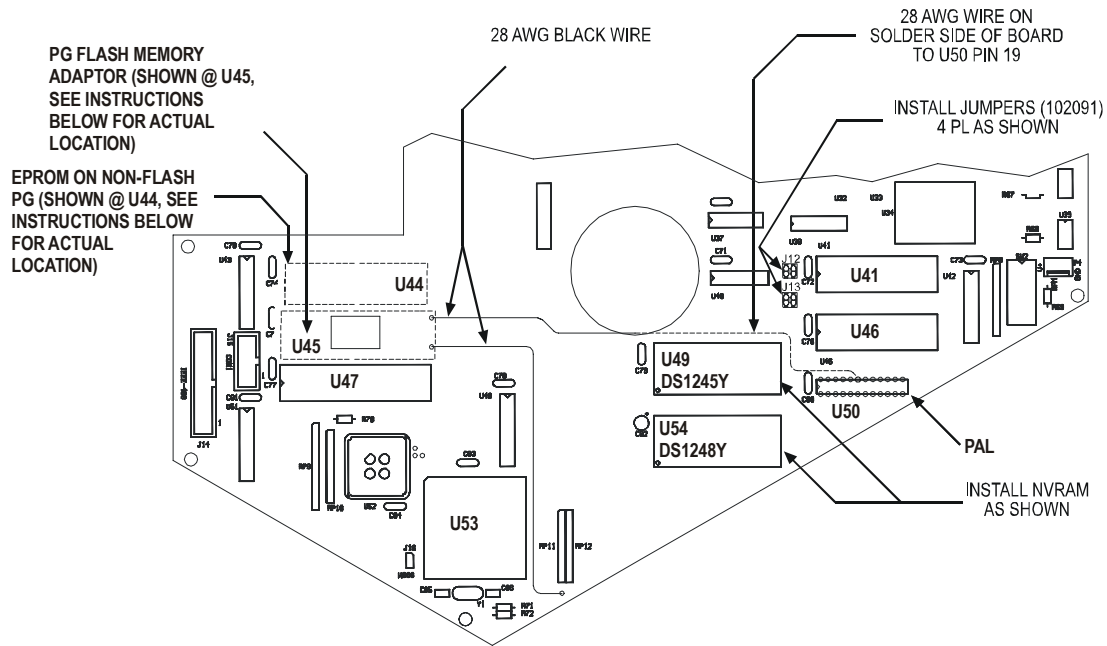

Figure 2
Installation Instructions (see Figure 2)
- 10 Using two lengths of the black 28 AWG wire and referring to Figure 2, connect the PG flash adaptor to the PG main board. Use silicon glue to hold the wire on the board.
- ① Flash the PG7000 with PG7000 software ver. 2.02d. (This is available for download at DHI web site: www.dhstruments.com). Refer to the instructions provided in Section 5.5 of the PG7000 manual. Remember, a “null modem” cable must be used to connect the PC to the PG7000 COM2 port.
- ② Reboot the PG7000 following the reboot instructions displayed. When asked whether to upgrade answer, “YES”.
- ③ Repeat step ① and ② with the most recent PG7000 software version.
- ④ PG7000 software upgrades are designed to reformat and transfer data as needed. However, various PG7000 user settings may be reset and/or deleted. The extent depends on the number of revisions between the original and the newly flashed version. Be sure to check the metrological aspects including piston-cylinder, mass set, mass bell and internal sensor calibration files as these may be completely deleted and/or reset. See the PG7000 manual.
- ⑤ Remove EEPROMs from U41 and U46.
- ⑥ Deliver the upgraded PG7000 Platform to the customer with the new PG Terminal P/N 401284 and the new PG7000 manual, P/N 550099.